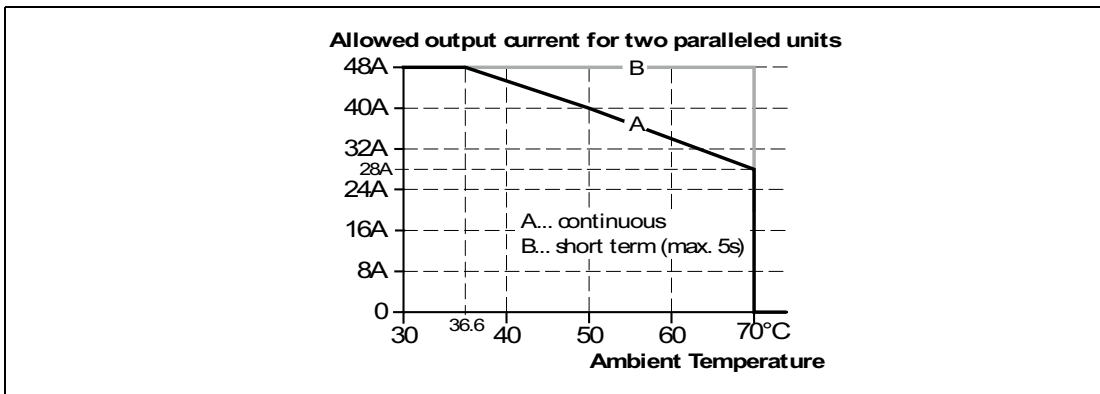
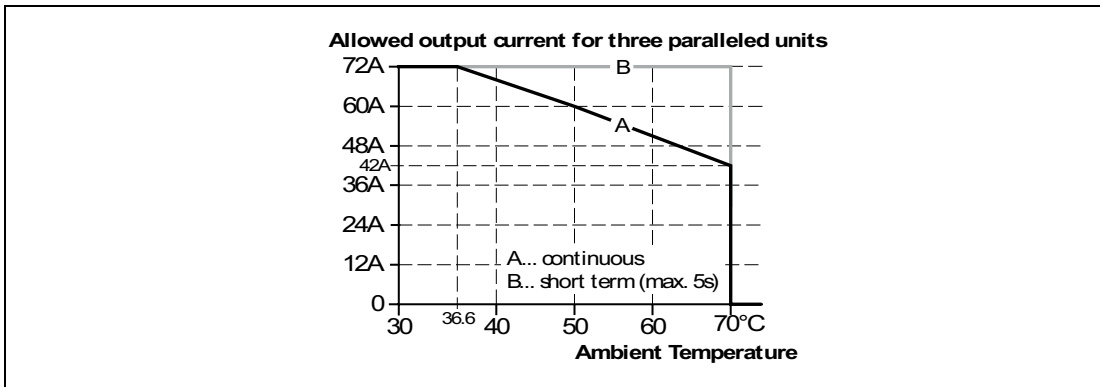

Figure 25.8 Output current vs. ambient temperature for two paralleled devices
Figure 25.9 Output current vs. ambient temperature for three paralleled devices
- Observe the temperature derating requirements of Figure 25.8 and Figure 25.9 for N+1 redundancy applications.